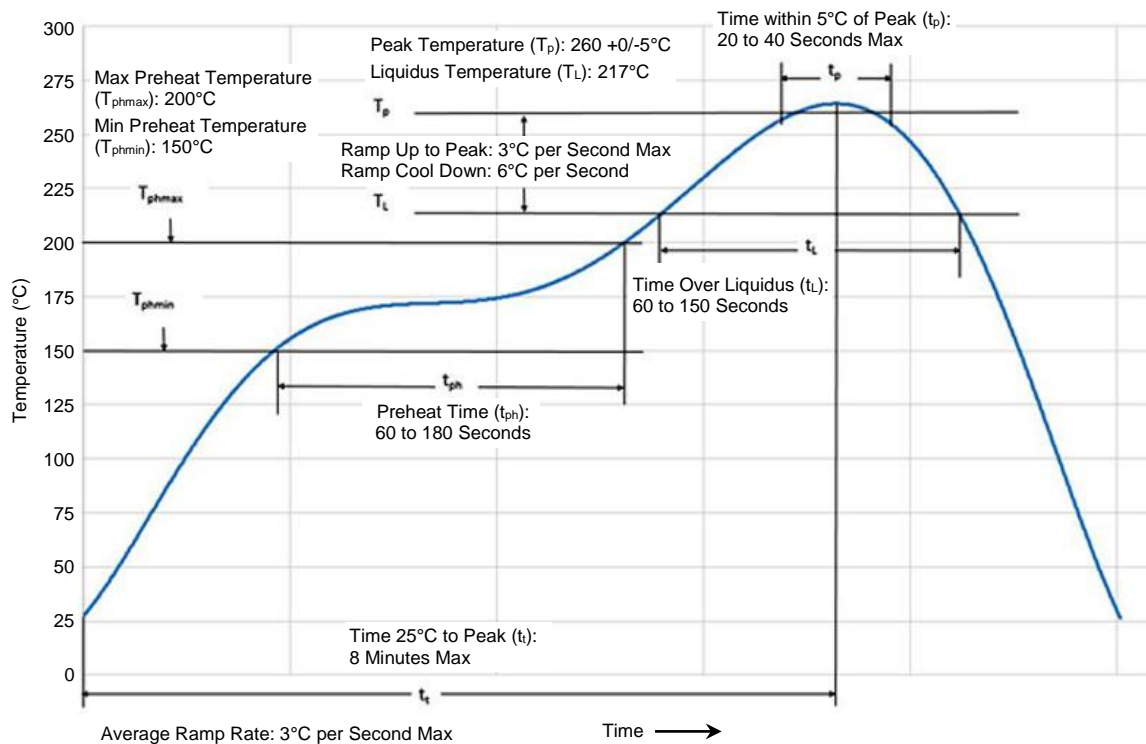

Figure 5
- Changed Figure 5 and Section 4, removed previous paragraph 2.5
Reflow or wave soldering or a similar process (pin-in-paste, pin-in-hole) can be used. Solder SN60 or SN62 or similar solder is recommended. The solder compounds must be RoHS compliance. For lead-free reflow soldering, it is recommended using solder paste SnAg3,0Cu0,5 or solder pastes with 3,04,0% Ag,0,5-1,0%Cu, rest Sn and the solder reflow profile given in Figure 5.